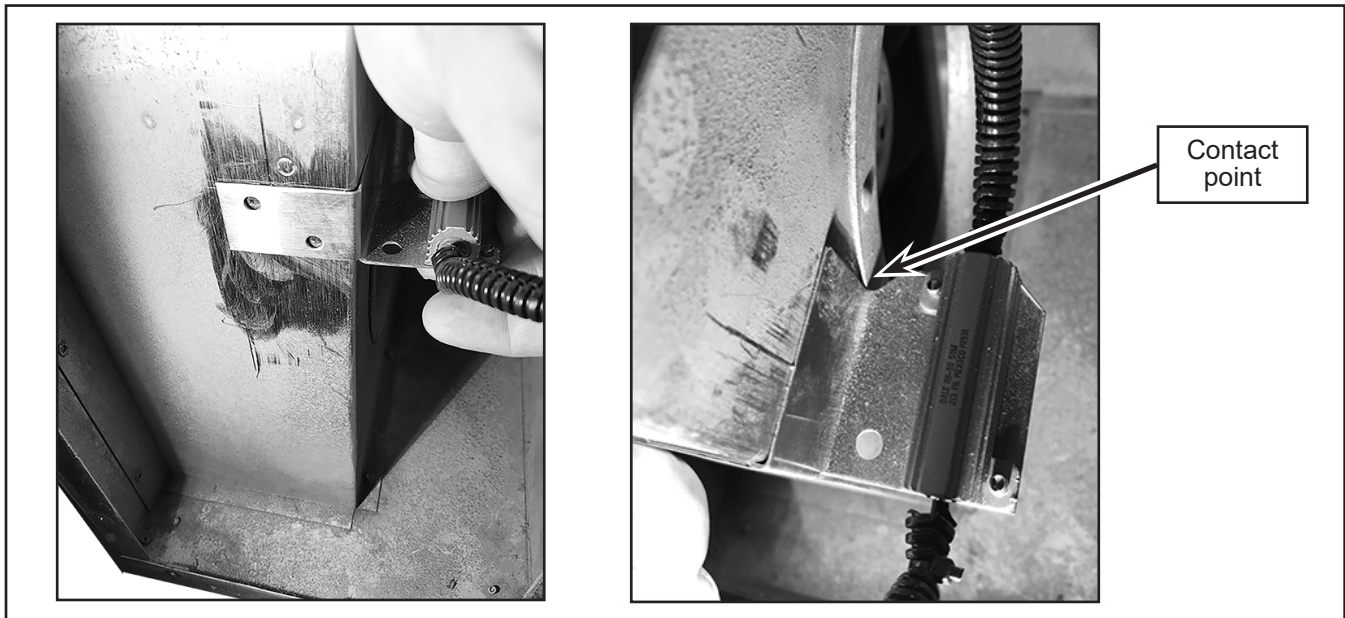

Figure 6 - Position Power Resistor Bracket
- 1.8. Install the power resistor in front of the heater box. Adjust the bracket so that the bottom of the bracket makes contact with the circular flange (Figure 6).